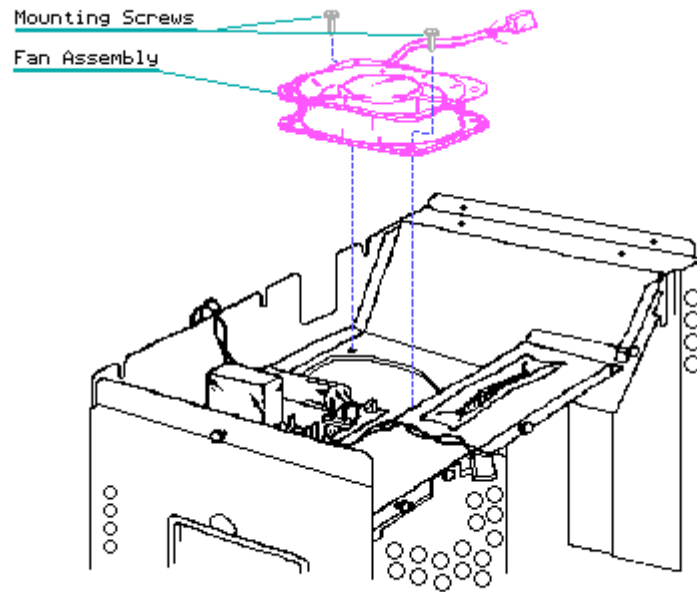

Figure 7-21. Removing the Fan Assembly
3. Using a Phillips screwdriver, remove the two mounting screws and lift the fan assembly from the system chassis (Figure 7-21).